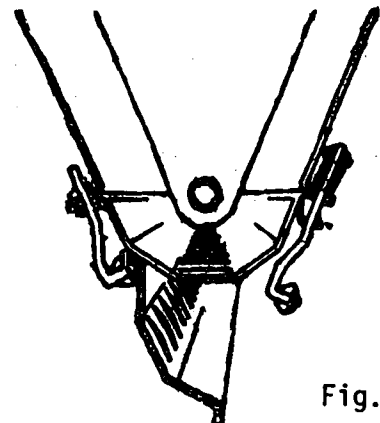

Fig. 4
*Hopper.* These are generally made of metal sheets. More recently, synthetic materials are used (fibreglass). Those on the centrifugal machines are cone shaped (like a funnel). On other machines, the hopper may be as wide as the machine itself. A section of this type is shown in figure 4.
Generally, all fertilizers are corrosive. For this reason it is very important that the metal parts of the machine which come into contact with the product should be easily accessible for cleaning. Figure 4 shows a section of a hopper with removable bottom for cleaning.